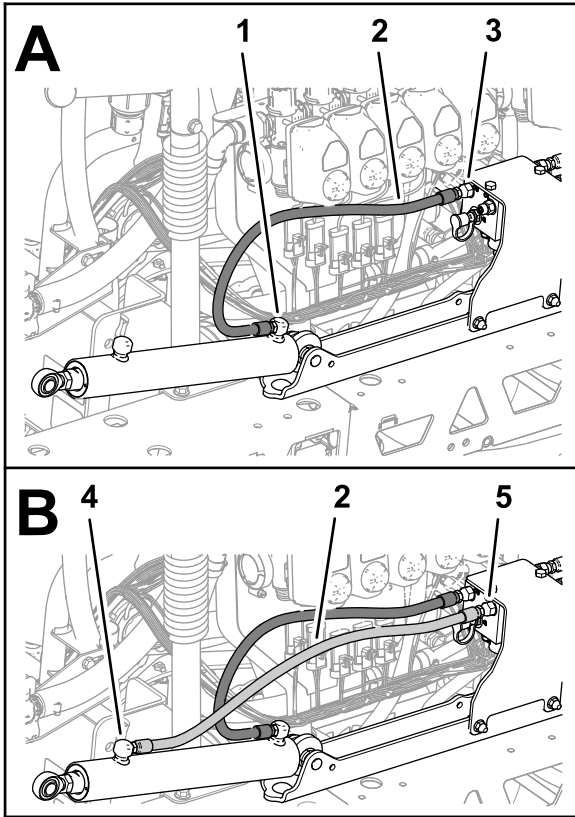
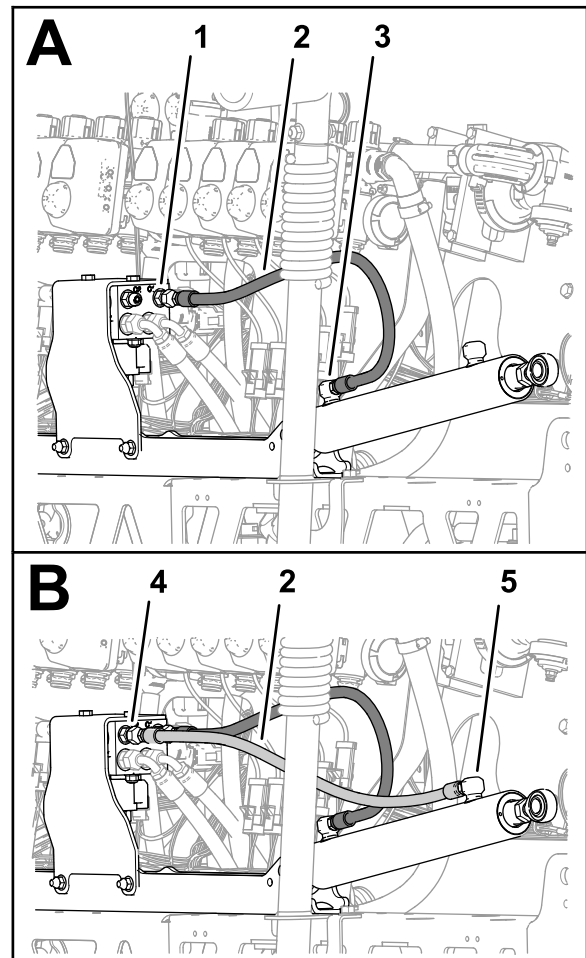

Figure 121
Figure 122
1. Loosely assemble a new hydraulic hose (1/4 x 24-3/4 inches) between the extend port of the left boom-lift cylinder and port C3 of the boom-lift manifold (Figure 121).
2. Loosely assemble a new hydraulic hose (1/4 x 24-3/4 inches) between the retract port of the left boom-lift cylinder and port C4 of the boom-lift manifold (Figure 121).
3. Loosely assemble a new hydraulic hose (1/4 x 24-3/4 inches) between the extend port of the right boom-lift cylinder and port C1 of the boom-lift manifold (Figure 122).
4. Loosely assemble a new hydraulic hose (1/4 x 24-3/4 inches) between the retract port of the right boom-lift cylinder and port C2 of the boom-lift manifold (Figure 122).
5. Torque the hose fittings at the extend and retract ports of the lift cylinders (Figure 121 and Figure 122) to 21 to 26 N·m (15 to 19 ft-lb).
6. Torque the swivel nuts of the hoses at the boom-lift manifold (Figure 121 and Figure 122) to 24 to 30 N·m (17 to 22 ft-lb).